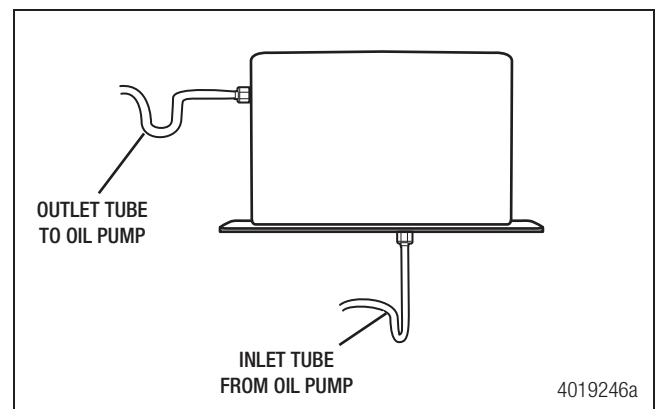

Figure 2
- Oil cooler lines should be routed to prevent oil flow back into the transfer case sump. This can be accomplished by routing lines in a p-trap configuration for both the oil cooler inlet and outlet lines. Figure 2.